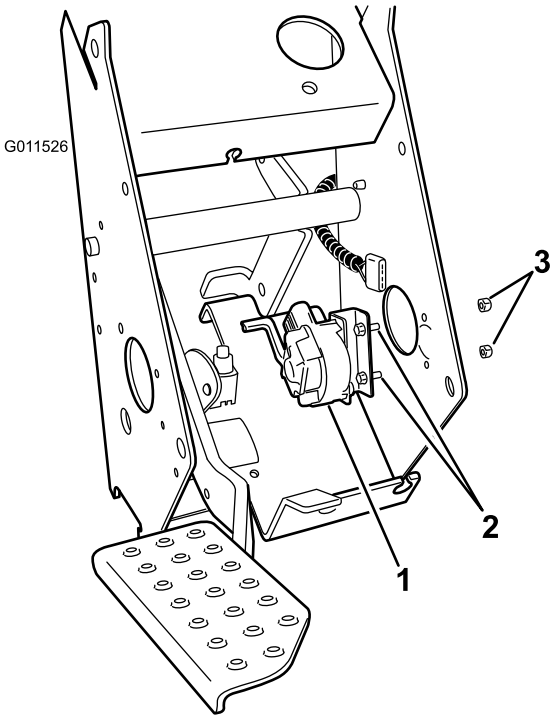

Figure 5
1. Install the new potentiometer assembly to the pedal box assembly (Figure 5). Use two screws (#8-32 x 1/2 inch) and two lock nuts (#8-32) to secure the assembly.